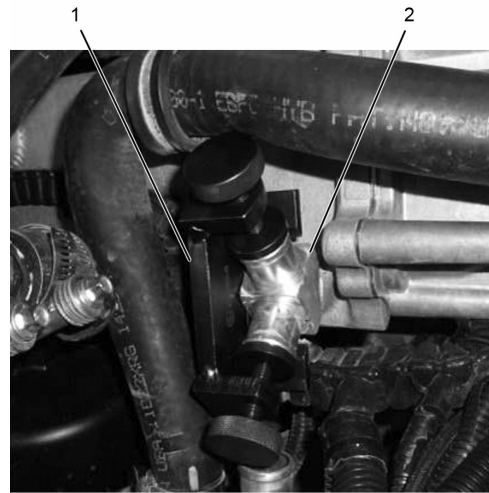

Figure 11
17. Install double hole plug (Figure 11, Item 1) into EGR low-temperature cooler housing inlet (Figure 11, Item 2) hand tight.